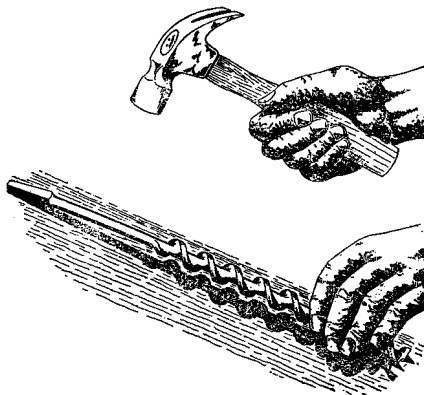

FIGURE 11.
- (6) *Squaring Shanks*—Shanks with slightly rounded edges may be squared by filing the flat faces with a lineman's file. See Figure 11. If the shank bit edges are rounded to the extent that the brace chuck will not hold the bit after being filed, it should be exchanged for one satisfactory for use.